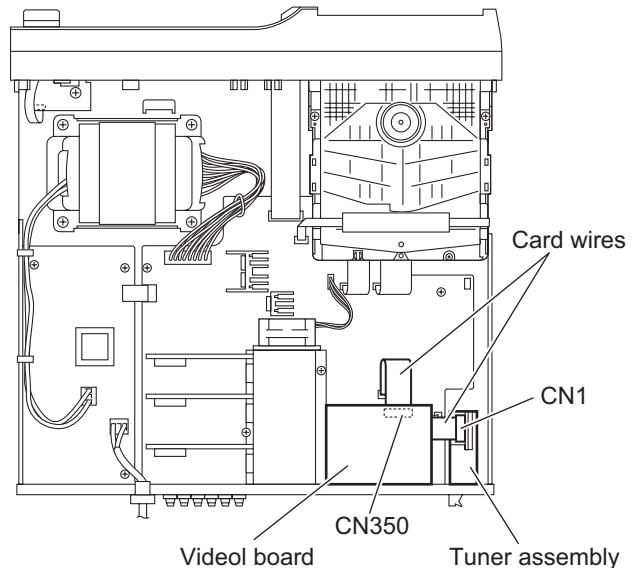

Fig.10
(See Figs.10 and 11)
- (1) From the top side of the main body, disconnect the card wire from the connector **CN1** on the tuner assembly. (See Fig.10.)
- (1) From the top side of the main body, disconnect the card wire from the connector **CN350** on the video board. (See Fig.10.)